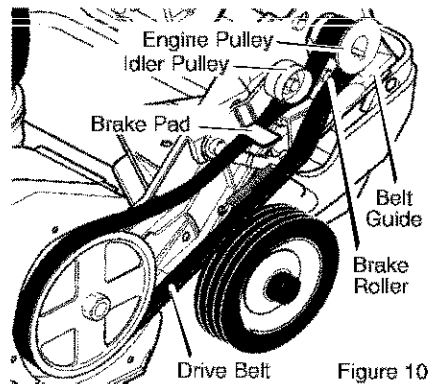

Figure 10
2. Remove the **drive belt** from the **idler pulley** (Figure 10).